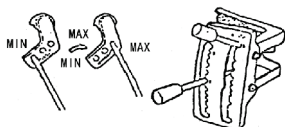

Fig.12
- Dusting. Regulate the discharge rate by shifting the dust rod's position in the three holes of the rock-arm. See Fig.12